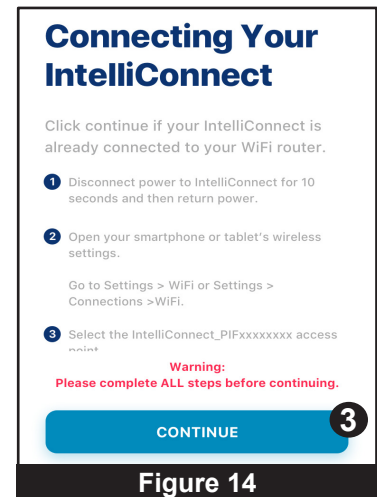

Figure 14
8. At the Connecting Your IntelliConnect screen (**Figure 14**):
- If your IntelliConnect has already been paired to a WiFi network, press CONTINUE (3).
9. If there is a successful connection, Installation Completed will appear. Press CONTINUE (4).